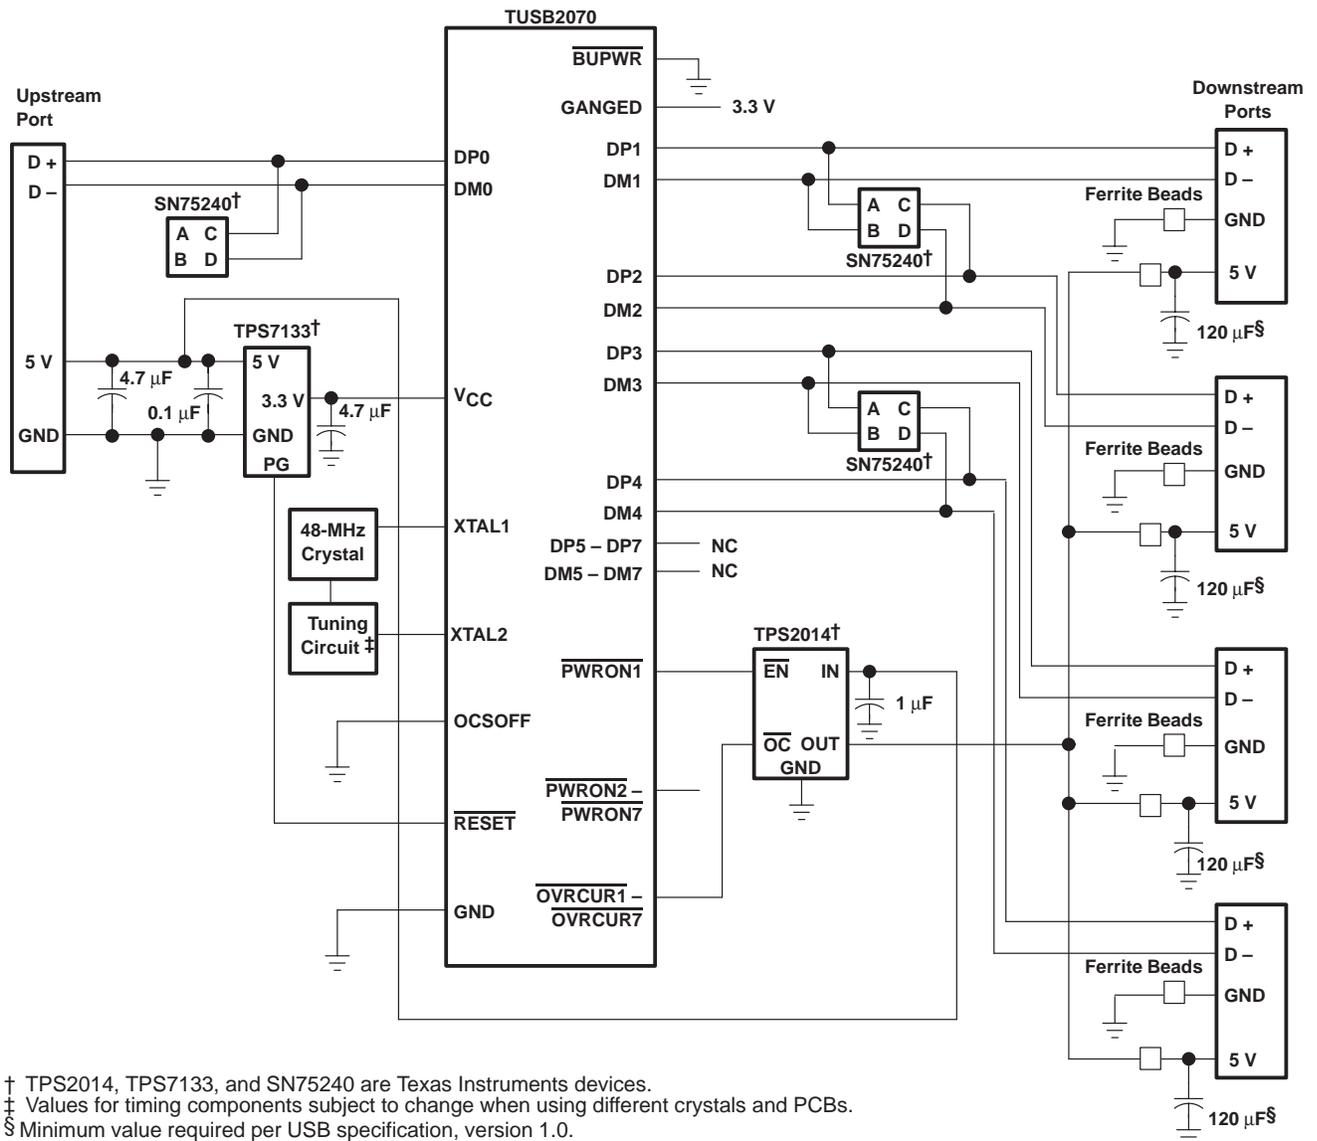

Figure 8. TUSB2070 Bus-Powered Hub, Ganged Port Power Management Application
Using a combination of the $\overline{\text{BUSPWR}}$ and GANGED inputs, the TUSB2140 supports four modes of power management: Bus-Powered hub with either individual port power management or ganged port power management and the Self-Powered hub with either individual port power management or ganged port power management. Texas Instruments supplies the complete hub solution because we offer this TUSB2070, the TUSB2040 (4-port) and the TUSB2140 (4-port with I²C) hubs along with the power management chips needed to implement a fully USB Specification 1.0 compliant system. See Figure 8, 9 and 10 for example configurations.
A bus-powered TUSB2070 supports up to four downstream ports (operation shown in Figure 8) and is capable of supplying 100 mA of current for low-power device class functions to each downstream port. DP5 – DP7 and DM5 – DM7 are disabled in the bus-powered mode. Bus-powered hubs must implement power switching. Ganged power management (see Figure 8) utilizes the TPS2014 power switch device, and provides over current protection for downstream ports. Individual SN75240 transient suppressors reduce in-rush current and voltage spikes. The TPS7133 low-dropout voltage regulator provides a Power Good (PG) signal for reset at power up. OVRCUR1 – OVRCUR4 inputs may be tied together for ganged mode operation. OVRCUR5 – OVRCUR7 are not used and should be tied to the same logic level.